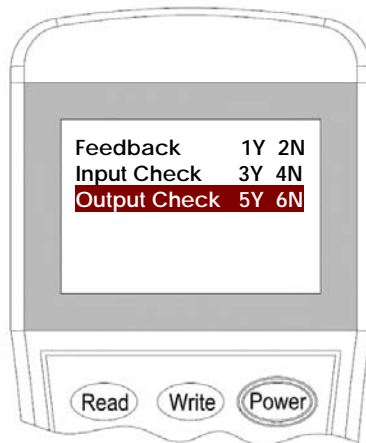

Figure 15
4. Input the **"5"** for **Check** mode then press **"Write"** to change the setting (Figure 15).